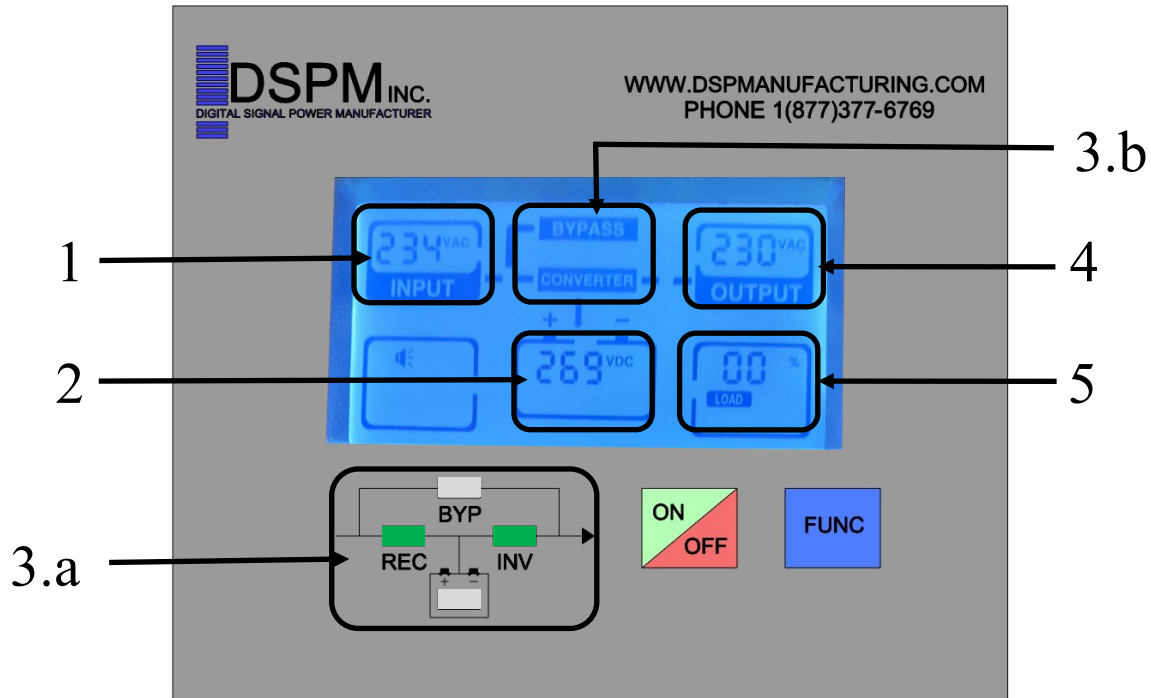

Figure 12
Refer to Figure 12 for descriptions of the Front Panel display's buttons and LCD.
- 6.1.3.2. The Processor perform a series of checks (These checks will be indicated by the display panels (see CH 7 Figure 12).